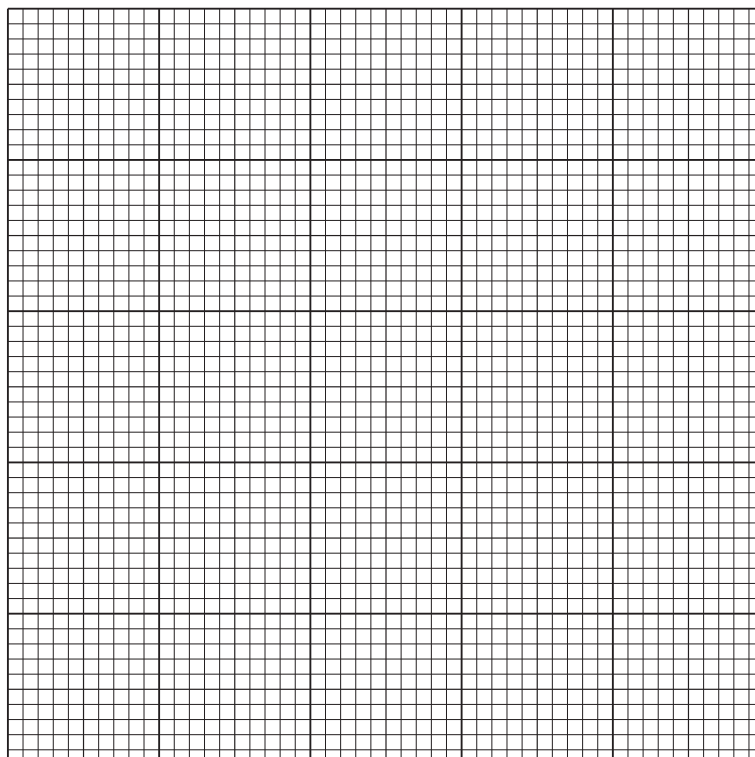

Fig. 1.2
- (i) Plot a graph of the data in Table 1.3 on the grid in Fig. 1.2.
- (ii) Use your graph in Fig. 1.2 to determine the rate of reaction when the concentration of substrate is 0.45 mol dm^{-3} .
Using this information and the graph in Fig. 1.2, state whether the inhibitor is a competitive inhibitor or a non-competitive inhibitor.